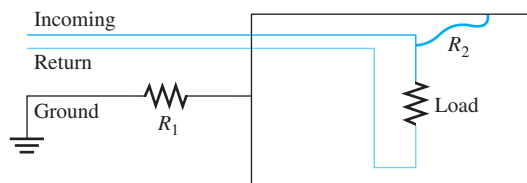

FIGURE P15.43 Example of a fault ground.
15.43 (A) As an instrument ages, the connection between the ground and the instrument's metal case may decay and generate a resistance, for example $R_1 = 100 \Omega$ in Figure P15.43. Assume that the incoming line voltage is 120 V and that there is a broken point that connects to the instrument's metal case, and $R_2 = 100 \Omega$. Please use the figure to explain the importance of dependable grounding in the building's wiring system, assuming a body's resistance to be $R_3 = 500 \Omega$.